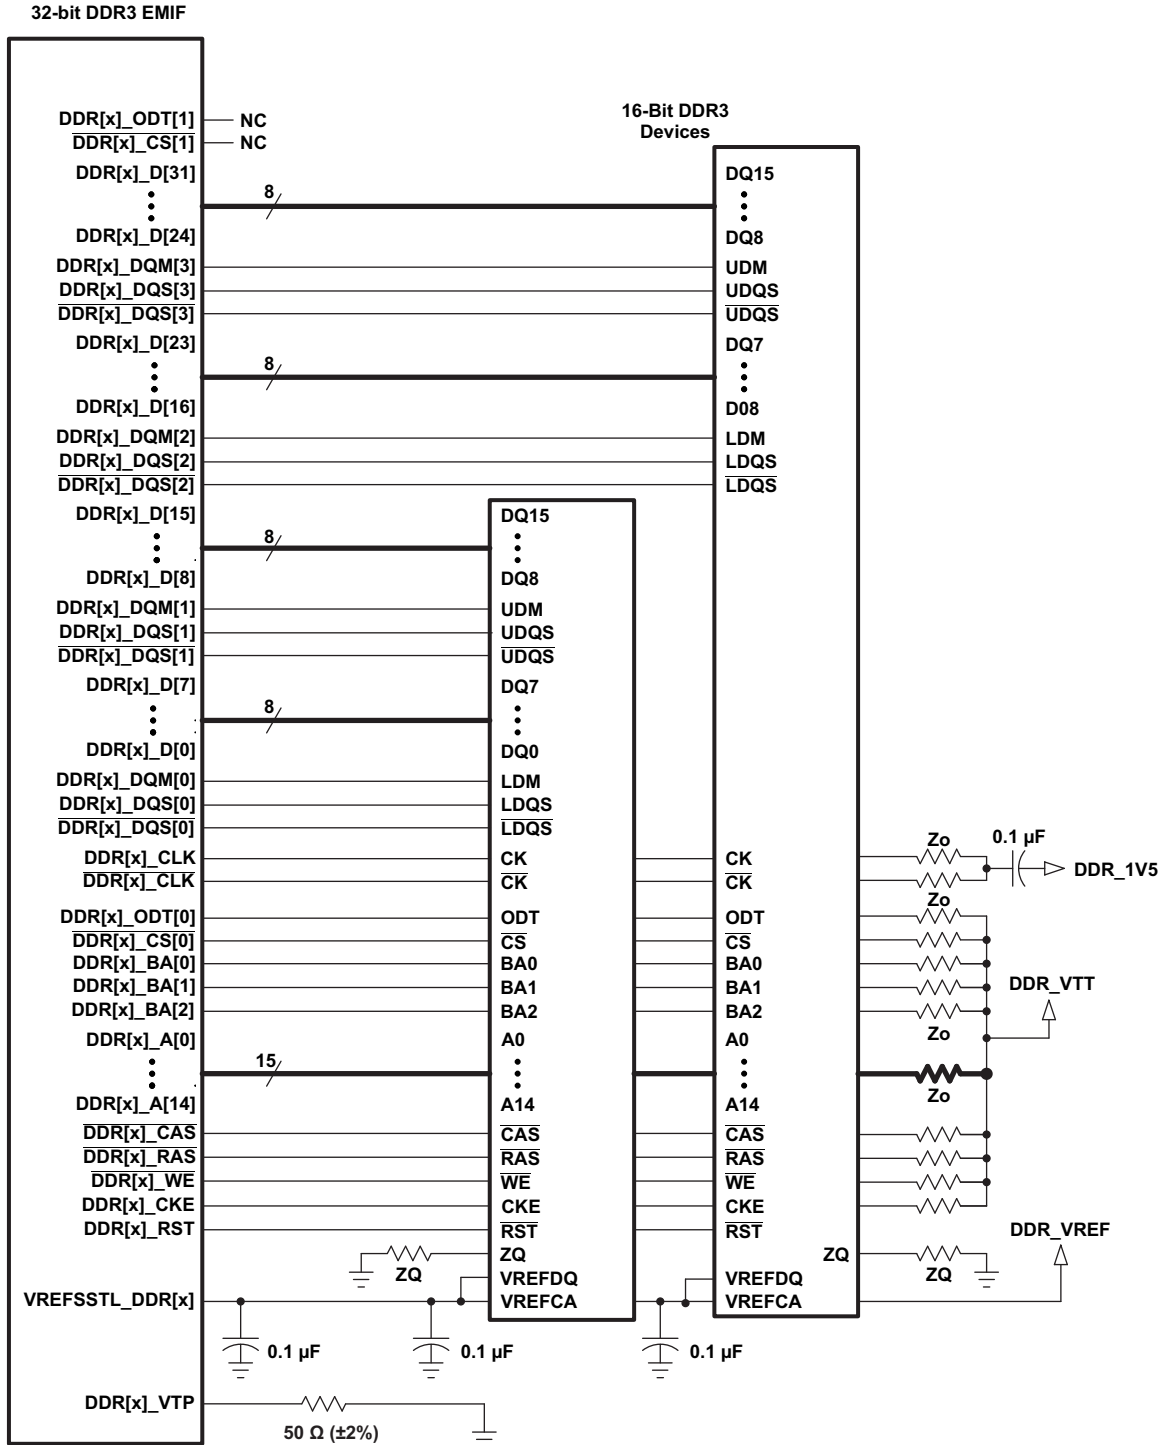
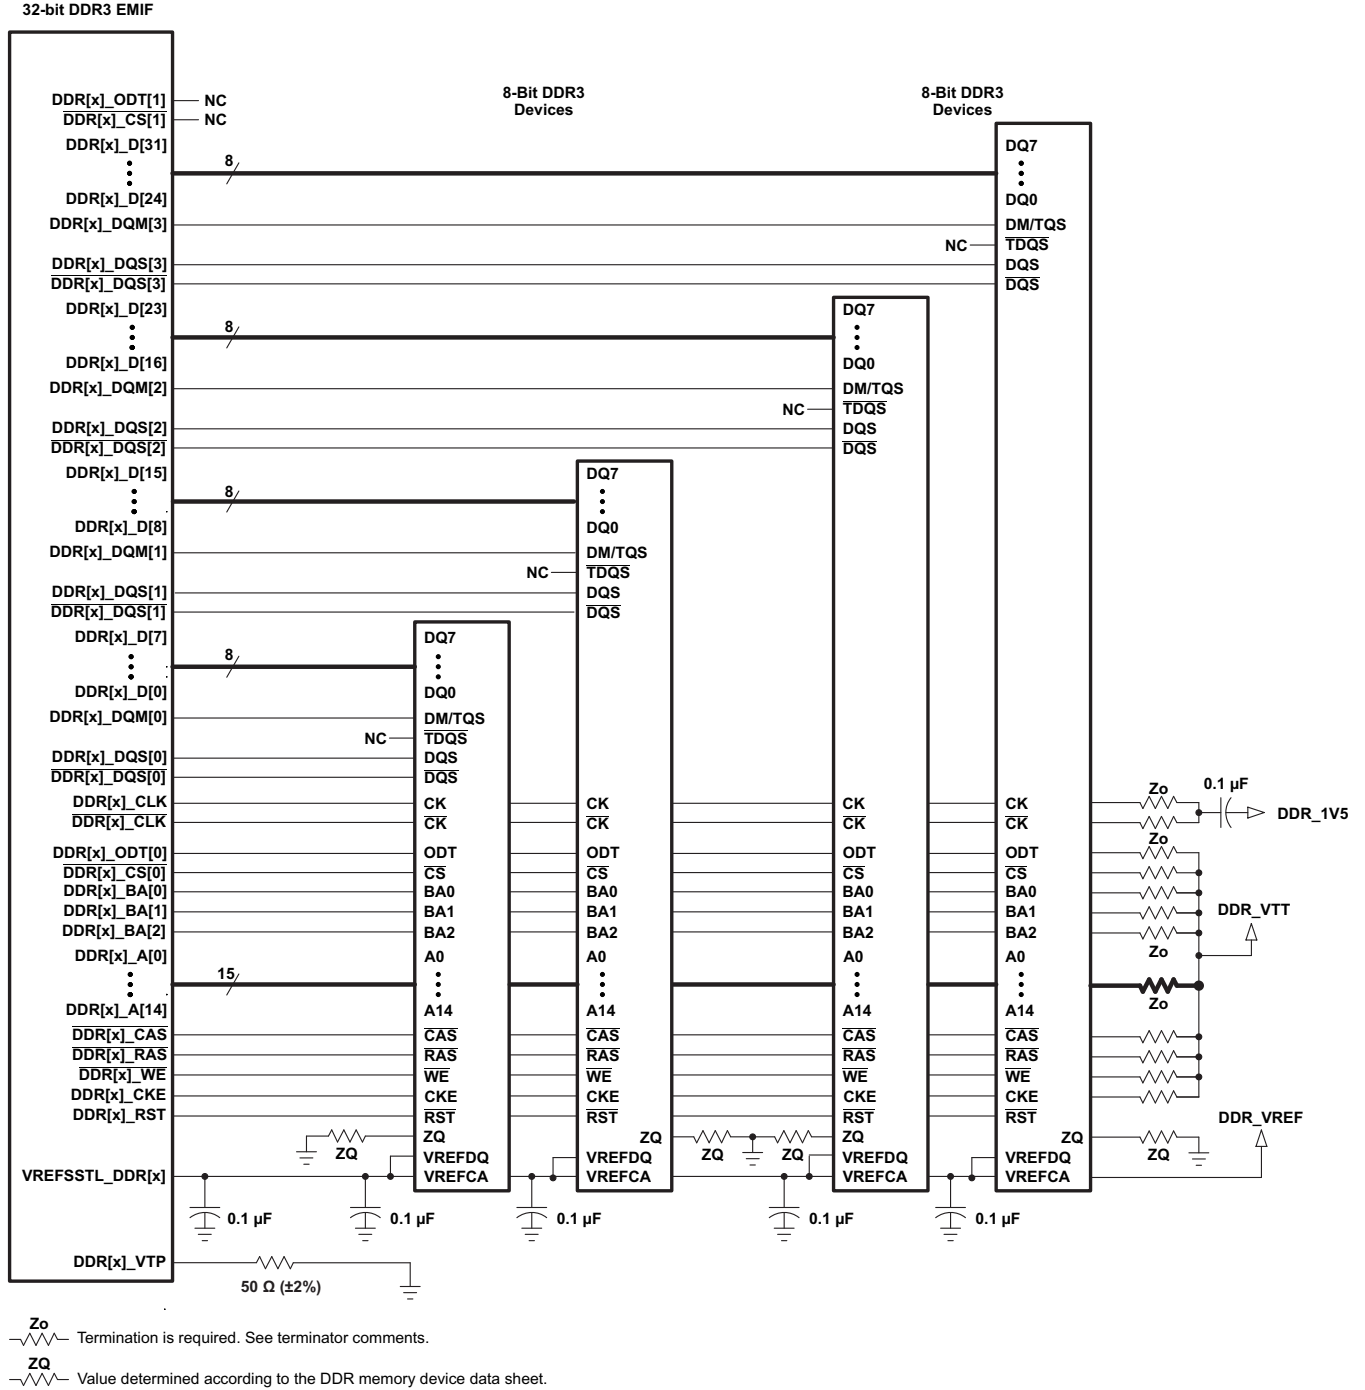

Figure 8-54. 32-Bit, One-Bank DDR3 Interface Schematic Using Two 16-Bit DDR3 Devices
Figure 8-55. 32-Bit, One-Bank DDR3 Interface Schematic Using Four 8-Bit DDR3 Devices
The DDR3 interface schematic varies, depending upon the width of the DDR3 devices used and the width of the bus used (16 or 32 bits). General connectivity is straightforward and very similar. 16-bit DDR devices look like two 8-bit devices. Figure 8-54 and Figure 8-55 show the schematic connections for 32-bit interfaces using x16 and x8 devices.
(1) DDR3 speed grade depends on desired clock rate. Data rate is 2x the clock rate. For DDR3-800, the clock rate is 400 MHz.
(2) DDR3 devices with speed grades up to DDR3-1600 are supported; however, max clock rate will still be limited to 533 MHz as stated in *Switching Characteristics Over Recommended Operating Conditions for DDR3 Memory Controller*.
(3) For valid DDR3 device configurations and device counts, see Section 8.13.4.2.4, Figure 8-54, and Figure 8-55.